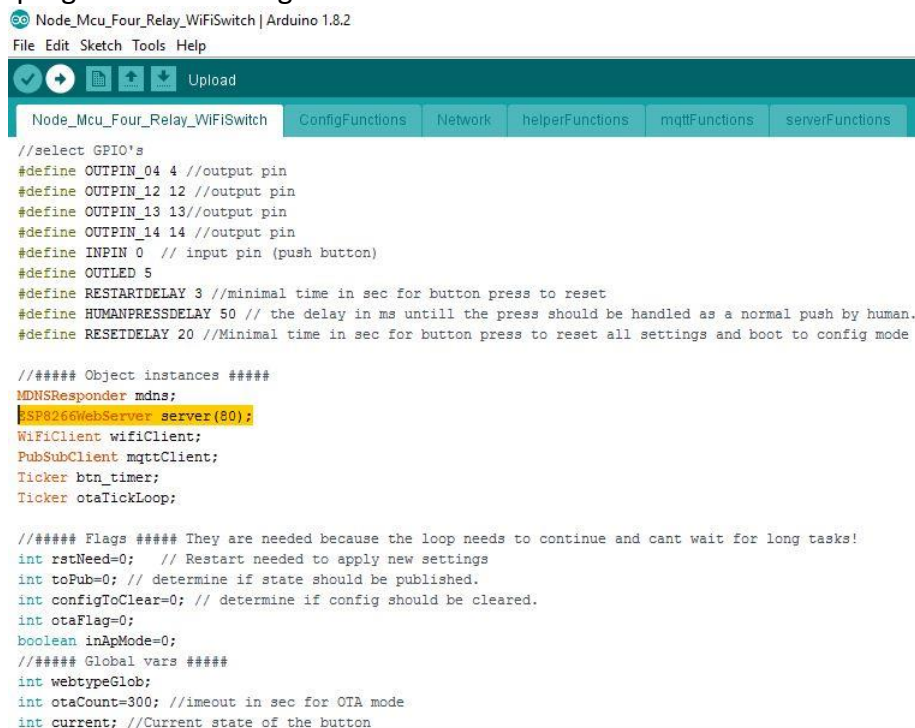

Figure 11: Running code
10. Run the program. Refer to Figure 11.